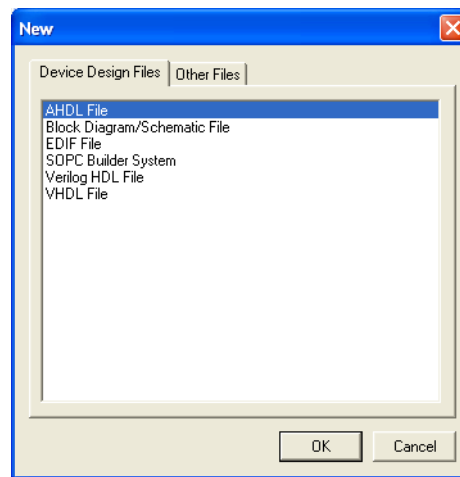
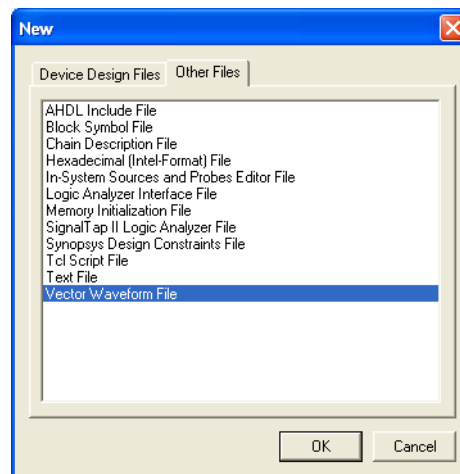

Figure 28. Need to prepare a new file.
Figure 29. Choose to prepare a test-vector file.
1. Open the Waveform Editor window by selecting **File > New**, which gives the window shown in Figure 28. Click on the **Other Files** tab to reach the window displayed in Figure 29. Choose **Vector Waveform File** and click **OK**.